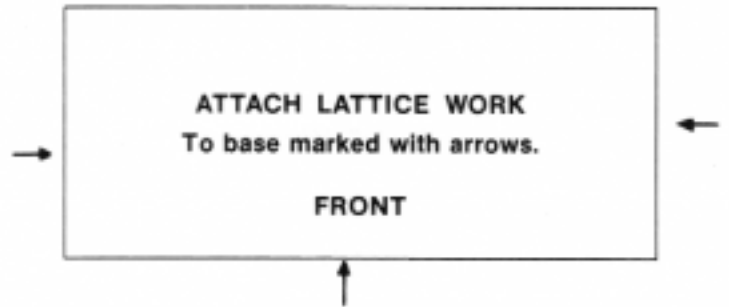

FIGURE 36
3. Trim universal molding (part no. 5-3) to length and glue on **EDGE** around the perimeter of the base as shown in Figure 36. Use masking tape to hold the trim in place while the glue dries. The top of the molding must be flush with the top edge of the base.